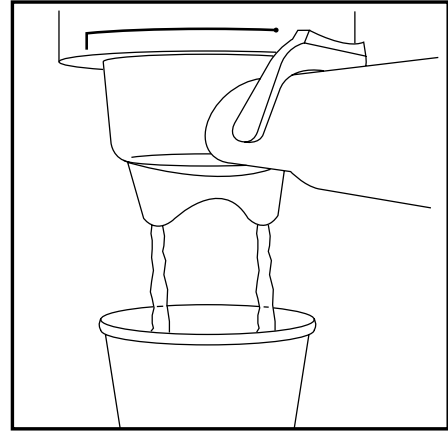

fig. 11
- j. Place a cup underneath porta filter. (fig. 11)